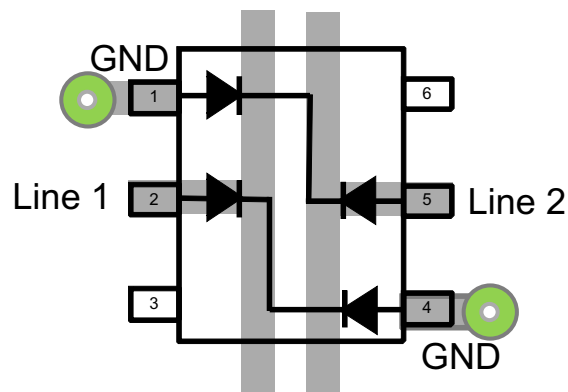

Figure 13. Routing Option 1
- (1) Using Routing Option 1 or 2 as shown in Figure 13 or Figure 14.
(1) Transmission line pulse with rise time 10 ns and pulse width 100 ns.
(2) T_A = 25°C
(3) Using Routing Option 1, Figure 13.